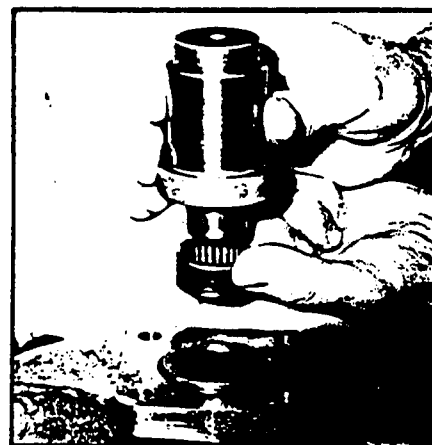

Figure 32
4. Thoroughly grease the rolls of a NEW bearing (19) with clean wheel bearing grease. Press the bearing into housing (15) from the mounting flange end of the housing bore, using bearing mandrel (special tool FIGURE 1, Page 7A) against the lettered end of the bearing shell. SEE FIGURES 32 and 33. Take care during this procedure that the housing is square with the press base and that the bearing is not cocked. The bearing mandrel will control the bearing (19) press depth to the required .135/.125 inches (3.43/3.18 mm) from the flange end of the housing.